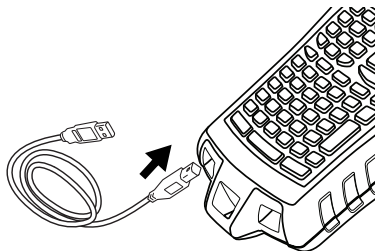

Figure 5
1. Plug the USB cable into the USB port on the bottom of the printer. See Figure 5.